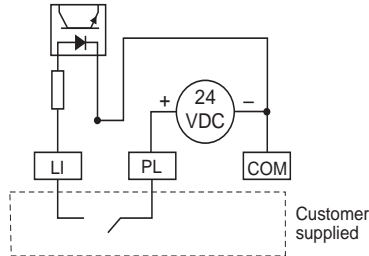

Figure 17: Operating the Logic Inputs from Internal Power Supply
The logic input (LI) may be operated either from the internal supply or an external supply. Figure 17 shows the connections for operating the logic input from an internal supply.